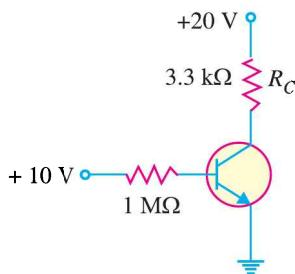

Fig. 8.70
- Draw the d.c. load line for Fig. 8.70.
- If the collector resistance R_C in Fig. 8.70 is reduced to $1\text{k}\Omega$, what happens to the d.c. load line?